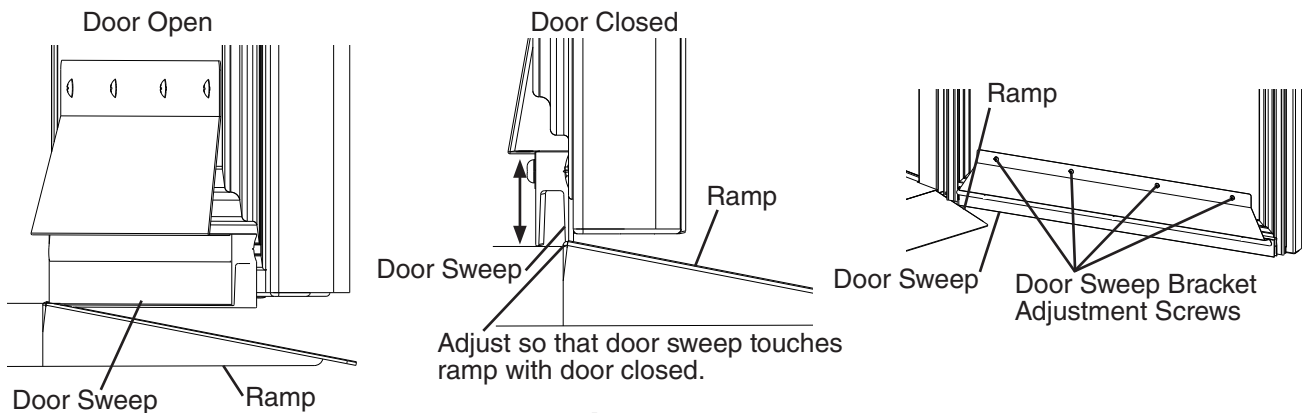

Fig. 8
5) Adjust the door sweep so that the door sweep touches the ramp when the door is closed. See Fig. 8. Once in its correct position, tighten the door sweep bracket adjustment screws.